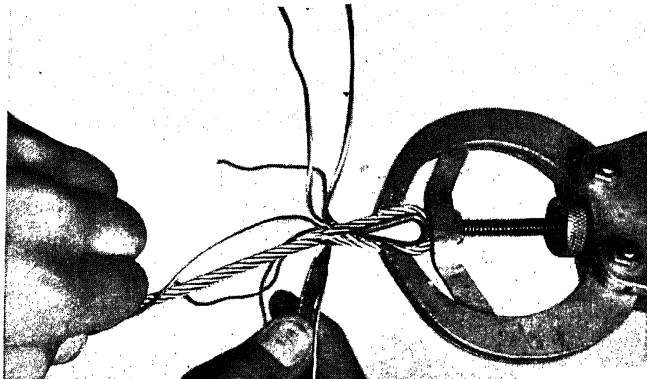

FIG. 2.—Starting the splice around a thimble.
**Splicing Clamp.**—After the proper thimble is secured, the end of the cable is bent around it, allowing enough wire to splice or weave into the cable itself, as in Fig. 2. This shows a common type of splicing clamp which holds the cable firmly against the end and sides of the thimble. It takes considerable practice to make a good splice in a wire cable, but it is the most satisfactory method for fastening the ends. A good man can make a splice in about 20 min. in the shop; it takes 50 per cent longer on the plane.